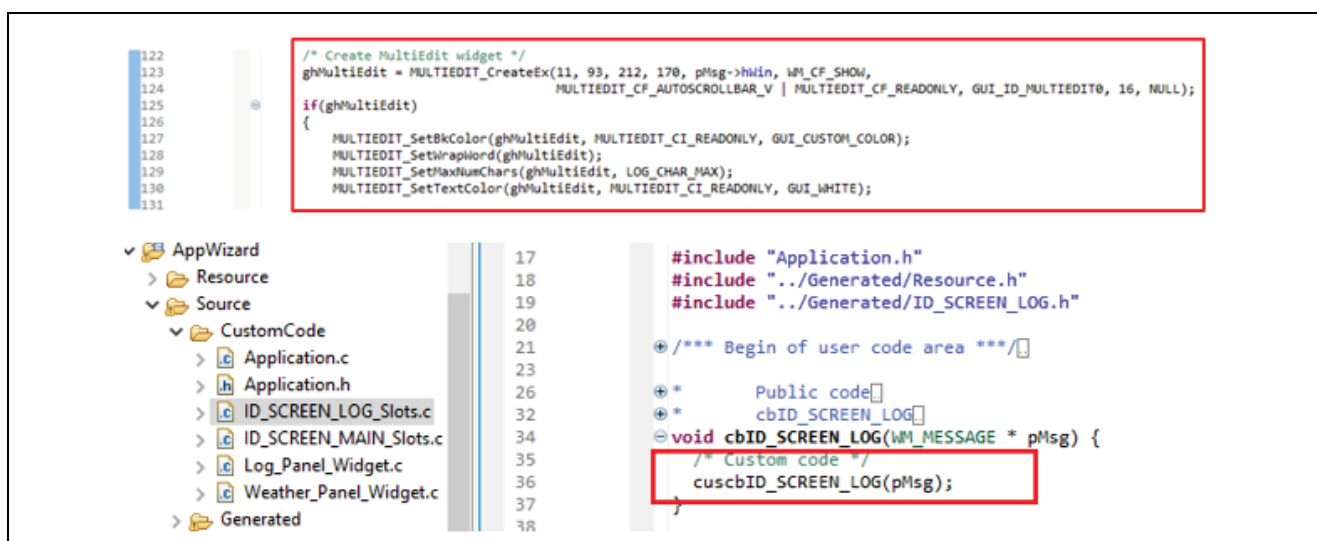

Figure 17. Adding Multiline Text Widget to AppWizard Application by using emWin APIs
- Figure 17 shows the function that creates the Multiline Text widget by using MULTIEDIT\_CreateEx API and other APIs.